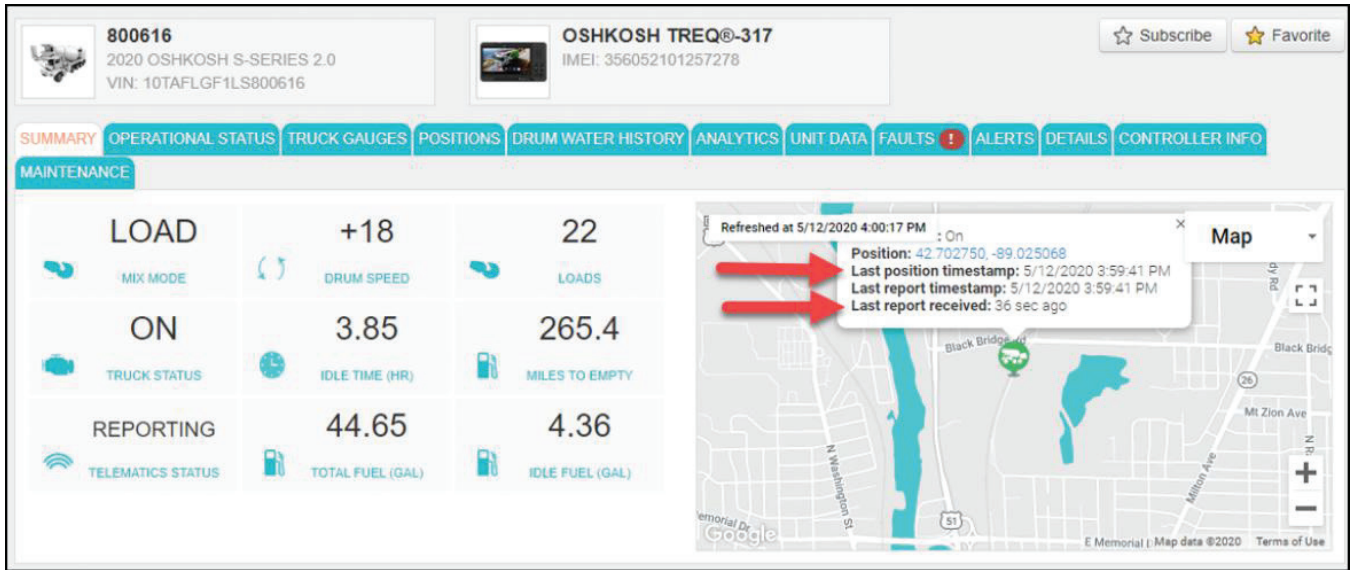

Figure 9
24. Check the GPS by clicking on the SUMMARY tab and making sure the map shows the current location of the truck. The time stamp displayed should be within 2 minutes of the current time. See Figure 9.